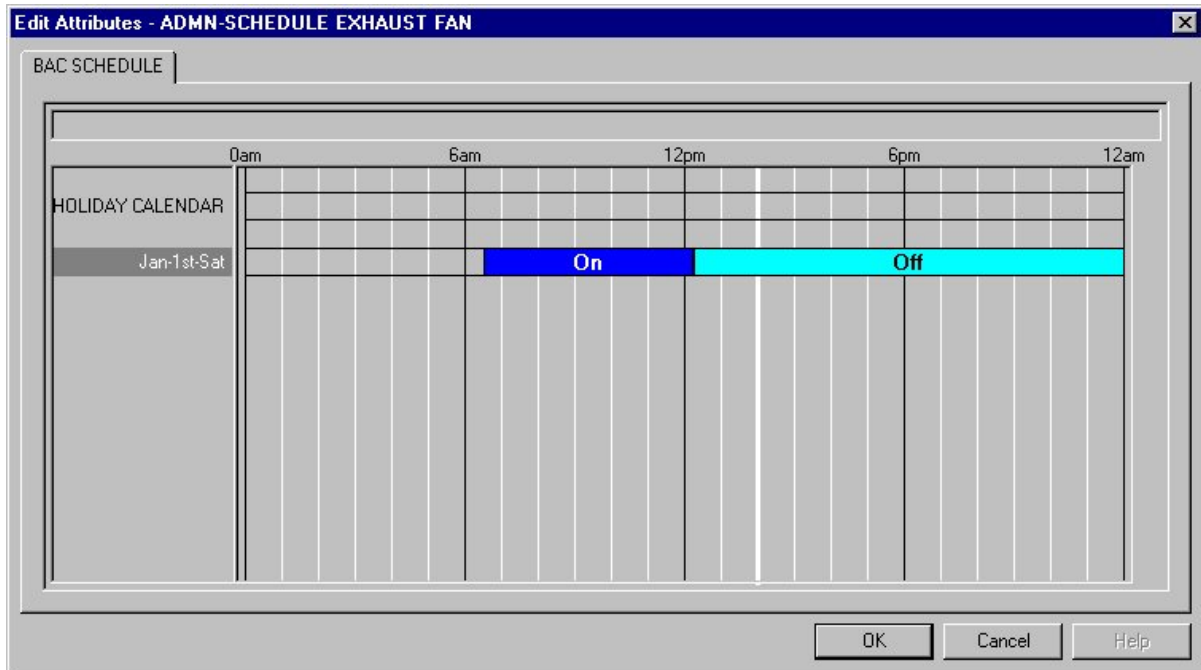

Figure 8-9: BAC Schedule Object Edit Attributes Exception Schedule Screen
2. Right-click inside the timeline grid on the right side of the screen, and select Exception. The BAC Schedule object Edit Attributes exception schedule screen appears (Figure 8-9).